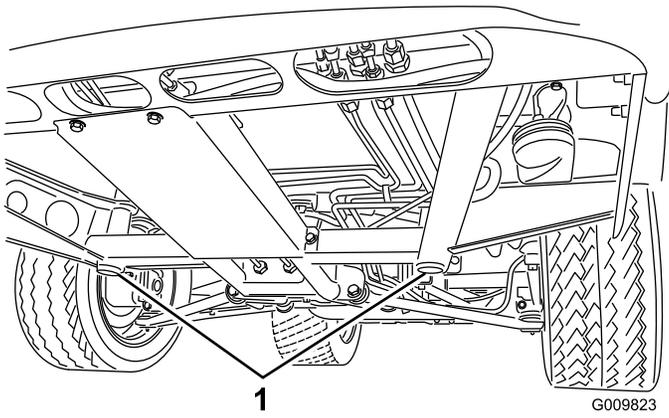
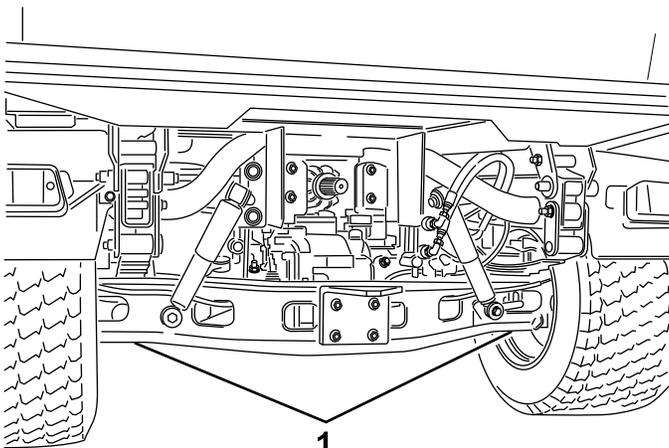

Figure 45
Figure 46
- The jacking point at the front of the machine is under the front center frame support (Figure 45). At the rear of the machine, the jacking point is under the axle (Figure 46).